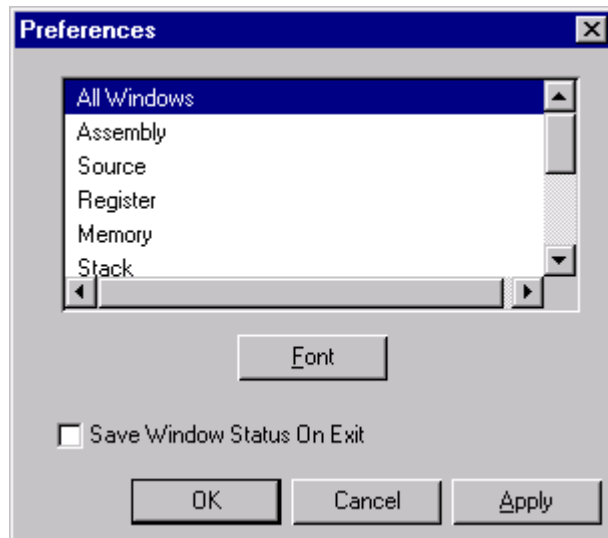

Figure 7-5. Saving Window Status on Exit
1. From the **File** menu choose **Preferences**. The dialog box in Figure 7-5 appears.